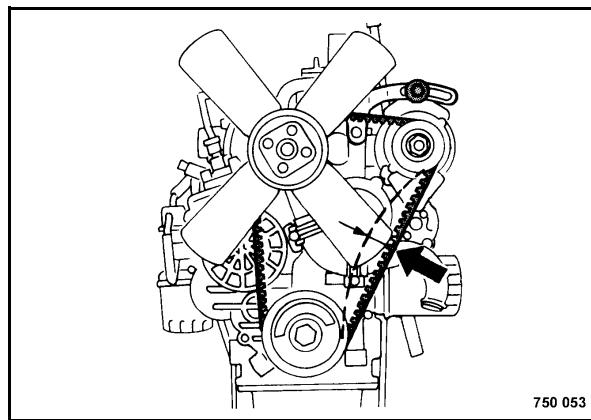

Fig. 100
- Check the entire circumference of the V-belt (Fig. 100) for damage and cracks. Replace damaged or cracked V-belts.